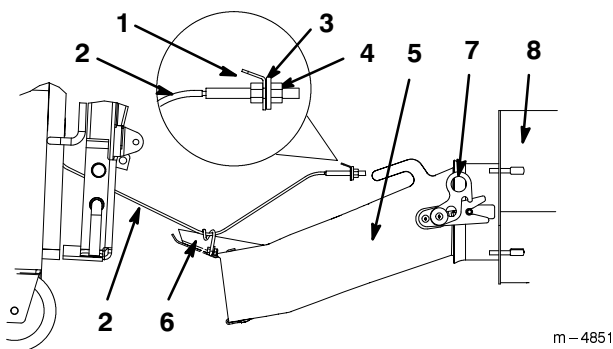

Figure 25
4. Raise seat, to gain access to plenum cable. Remove washer and nut from plenum cable end (Fig. 25).